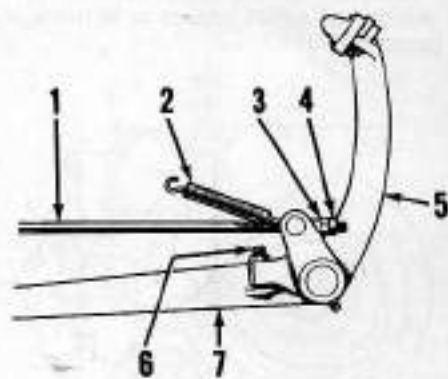

Fig. 182—View of typical brake pedal and related parts.
**334.** Align left and right brake pedal height by adjusting screws (6—Fig. 182). Tighten locknuts to retain adjustment.
To adjust brakes, raise tractor until both rear wheels are off the ground and are free to turn. Make certain park brake is fully released. Turn adjusting screw (3—Fig. 182) on one brake rod only until wheel becomes difficult to turn on that side, then loosen nut (3) until wheel just begins to turn freely and tighten locknut (4).